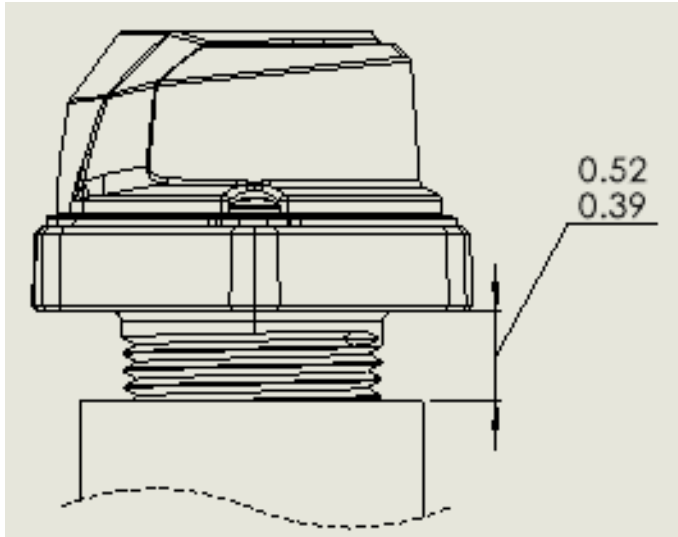

Figure 1: Installed Gap Between Probe Hex Bottom and Top of Spud
3. Install head to have a final engagement between .52" and .39" from the top of the spud and the bottom of the hex as pictured in Figure 1. This engagement allows for a range of between 5.5 and 7 engaged threads respectively. Minimum torque shall be 100 pound-feet.